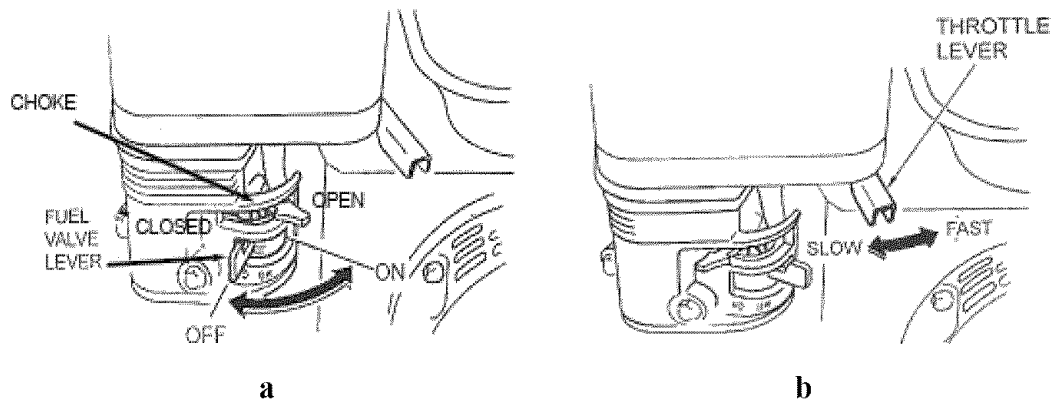

Figure 8 Engine lever positions
1. Turn the engine fuel valve lever to the “on” position (see figure 8).
3. Move the engine throttle lever to the fast position (see figure 8).